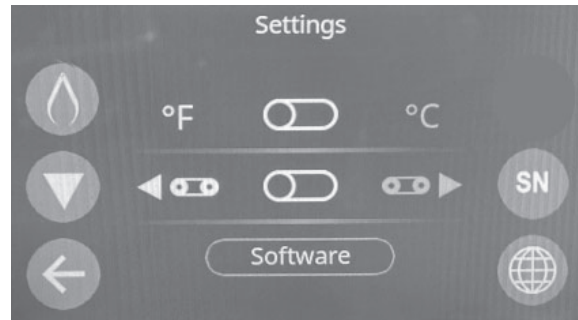

Figure 23
3. Temperature Unit of Measure - Touch the white circle in the oval button on the Settings display that shows the temperature measure. The Fahrenheit or Celsius symbol will change to correspond to the desired temperature unit of measure. (Figure 23)